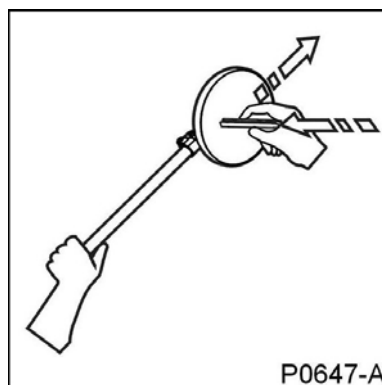

Figure 8: Test Piece Test
- Move the test piece towards the centre of the coil until it lightly touches the coil then move it sideways off the coil. (Figure 8)